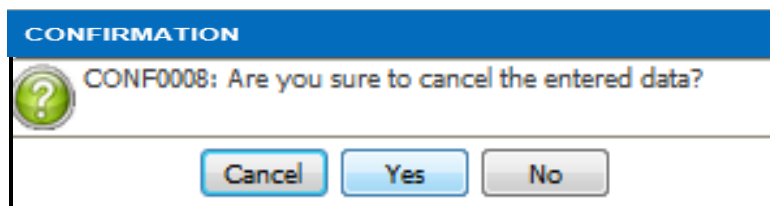

Figure 3.2-7 Cancel Order Alert Message
- Click on the  link to cancel radiopharmaceuticals order and alert message will be displayed as per Figure 3.2-7.